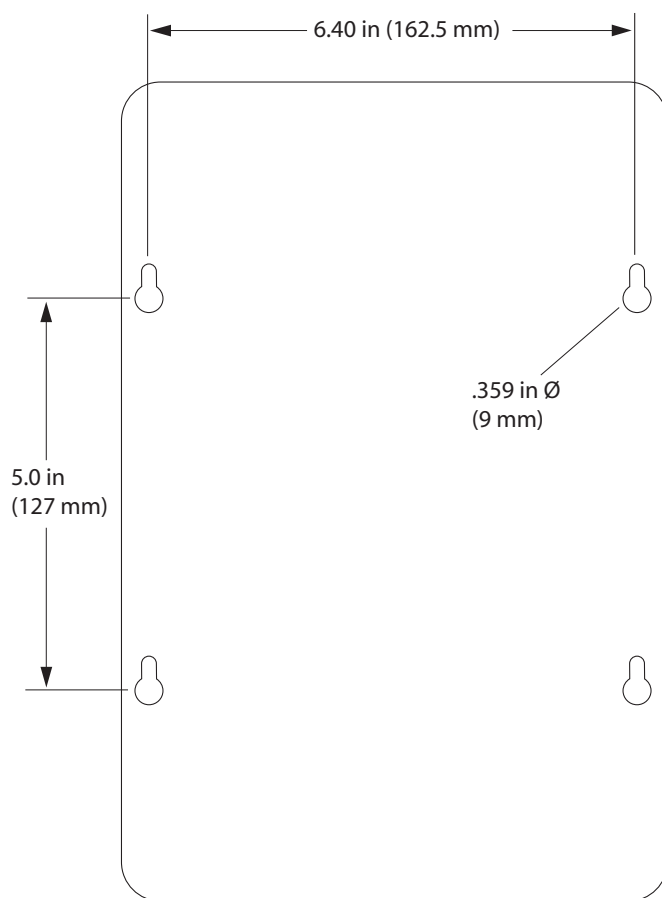

Figure 8–Base Plate with Mounting Keyholes
SAMSys recommends that the MP9320 V2.8 be mounted on a horizontal surface. However, if vertical surface installation is required, refer to the following sections for the appropriate mounting. As shown in Figure 8, keyhole slots are provided for easy installation and removal.
1. Refer to Figure 8, and mark the location of the mounting screws. Do not install the anchors into the mortar joint.
1. Refer to Figure 8, and mark the location of the mounting screws.